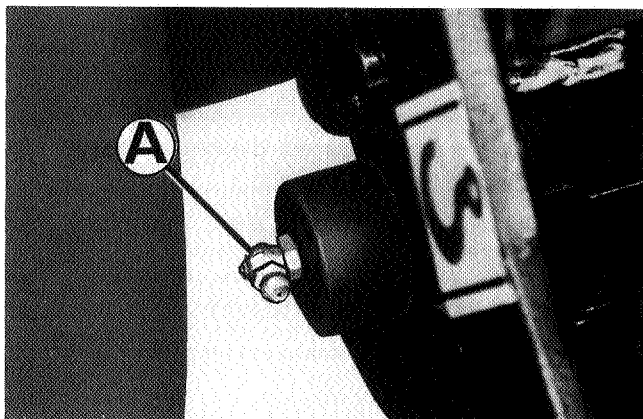

Fig.29
- (a) Lift arm pivots (A Fig. 29).
- (a) Hubarmlagerzapfen (A Fig.29).
- (a) Pivots des bras de relevage (A, Fig.29).